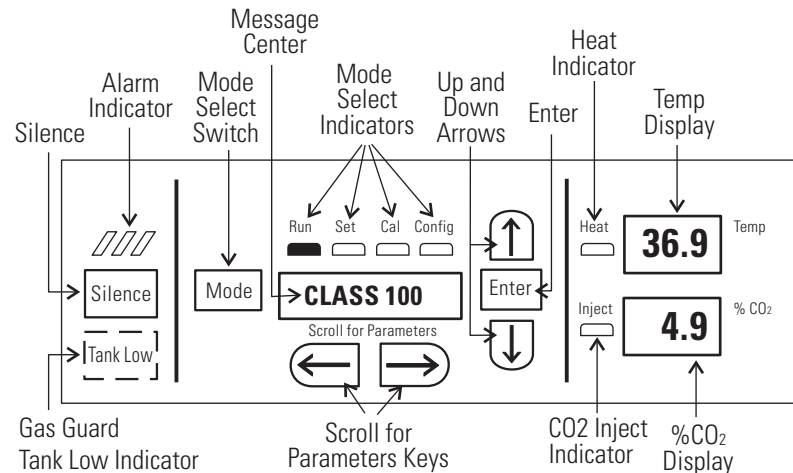

Figure 1-2. Control Panel
- Control Panel - Keypad, Displays and indicators (Figure 1-2)